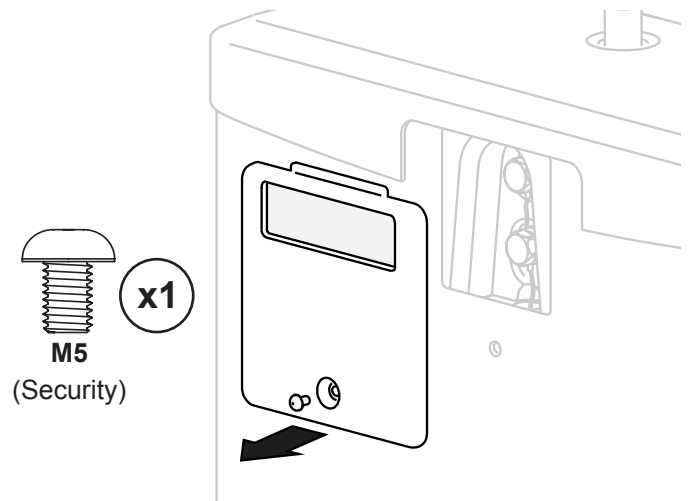

Figure 19: Sensor cover removal
- ▶ Ensuring the unit is drained, use an appropriate tool, remove the sensor cover, see figure 19.